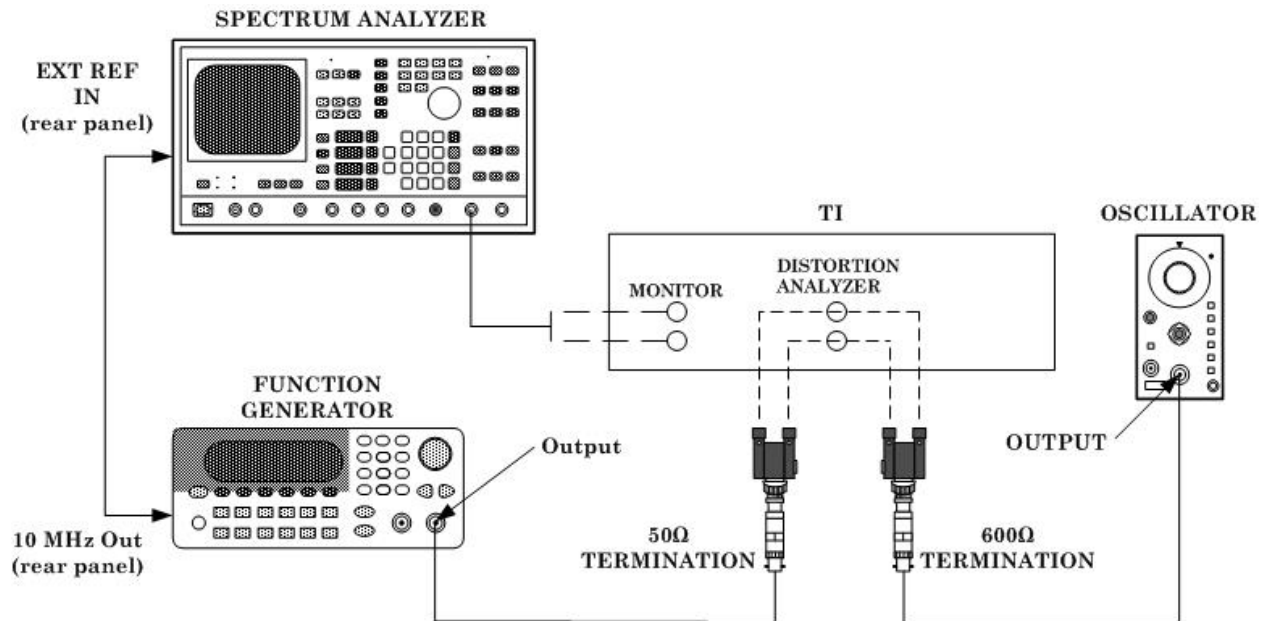

Figure 5. Distortion setup.
(1) Connect equipment as shown in figure 5 below.